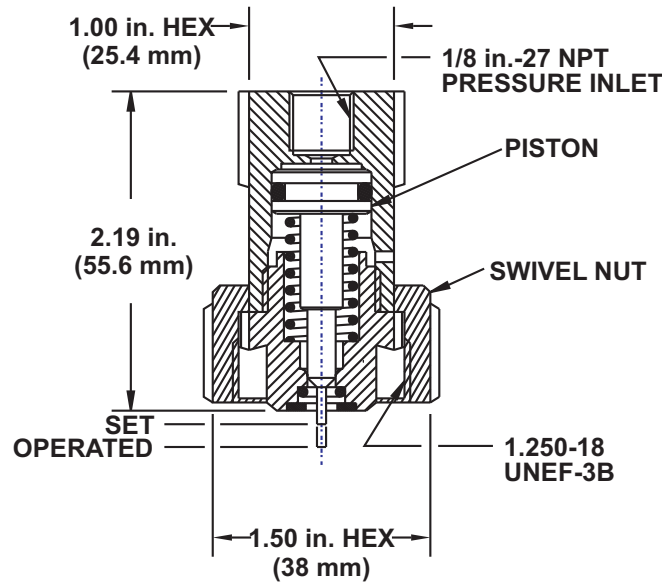

Figure 4-20. Pressure Operated Control Head
1. Remove the protection cap from the cylinder actuation port (see Figure 4-20).